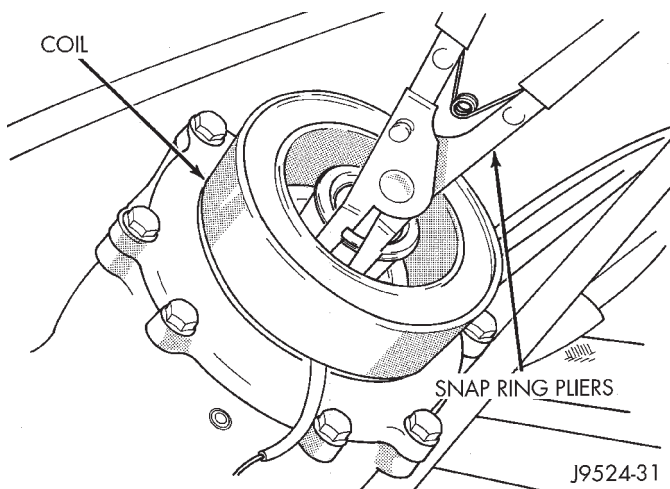

Fig. 25 Clutch Field Coil Snap Ring Remove
- (13) Remove the snap ring from the compressor hub and remove the clutch field coil (Fig. 25). Slide the clutch field coil off of the compressor hub.